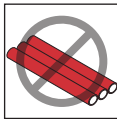

Figure 6: Do not cross, overlap, or group heating cables
**Important:** Do not install so that heating cables are crossed, overlapped, or grouped (Figure 6). Grouped heating cables can cause localized overheating with a risk of fire or cable failure.